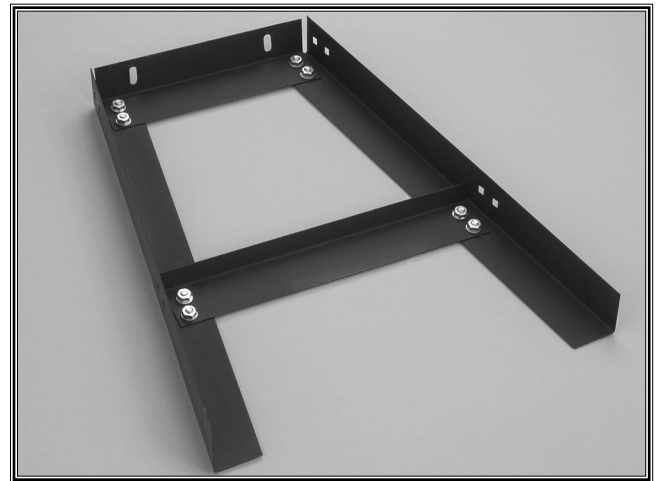

Figure 3. Assembled Legs.
1. Assemble two legs together with a lower short brace and an upper short brace as shown in **Figure 3**.